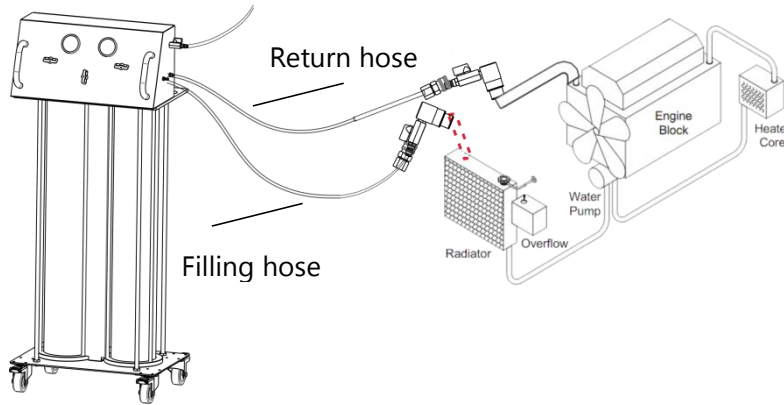

Fig.8
1. Connect the return hose to engine side, and connect the filling hose to the radiator side; (Fig.8)